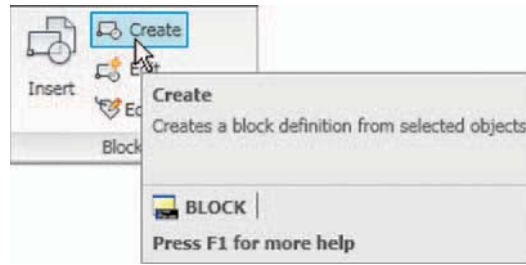
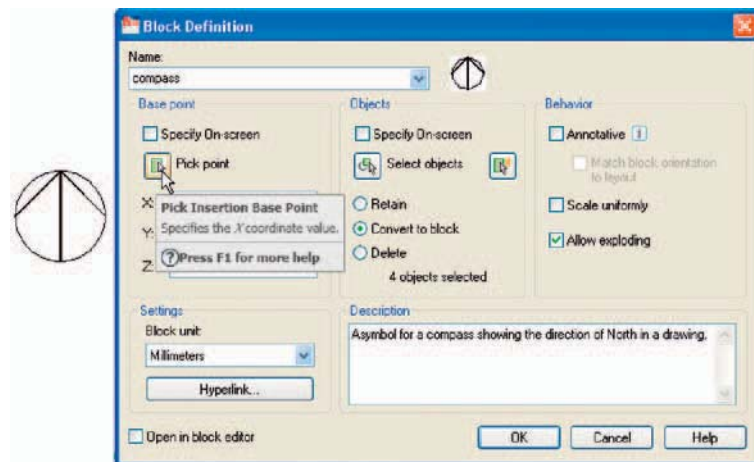

Fig. 9.2 Click **Create** tool icon in the **Home/Block** panel
Fig. 9.3 The **Block Definition** dialog with entries for the **compass** block
First example – Blocks (Fig. 9.3)
2. *Left-click* the **Create** tool icon in the **Home/Block** panel (Fig. 9.2). The **Block Definition** dialog (Fig. 9.3) appears. To make a block from the **Compass** symbol drawing: